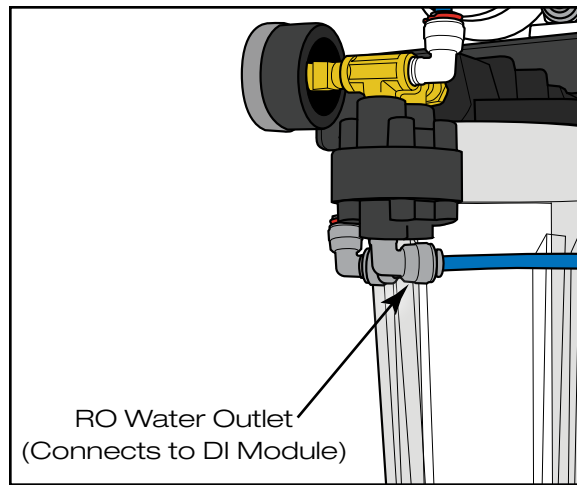

Figure 14
Measure and cut a length of **blue** tubing to connect the reverse osmosis (RO) water outlet on the main assembly to the INLET of deionization module. Typically, this tubing is routed behind the main assembly. Insert tubing into fittings and secure with red lock clips provided. (See Figures 14 & 15, and installation diagram on page 31.)